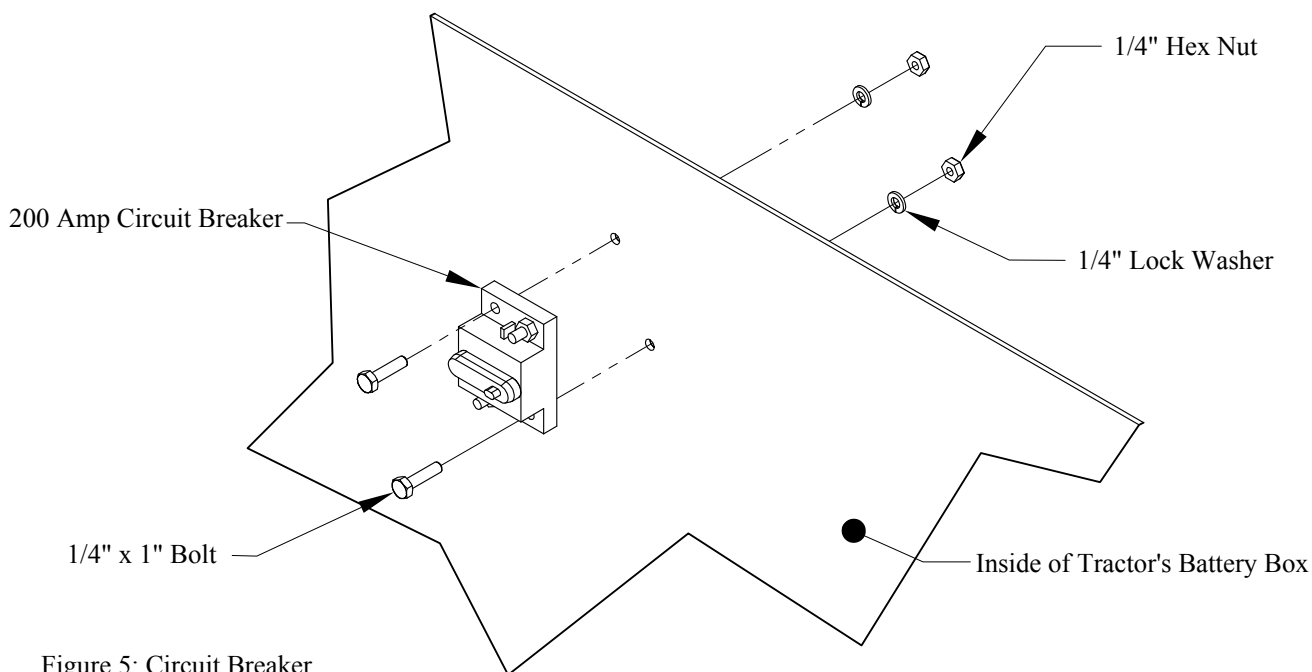

Figure 5: Circuit Breaker.
5. **Drill** two $\text{Ø} 9/32\text{'}$ holes in the tractor's battery box to mount the circuit breaker (Figure 5).
6. **Mount** the circuit breaker to the inside of the tractor's battery box using the supplied $1/4\text{'}$ x 1' bolts, lock washers, and nuts (Figure 5).